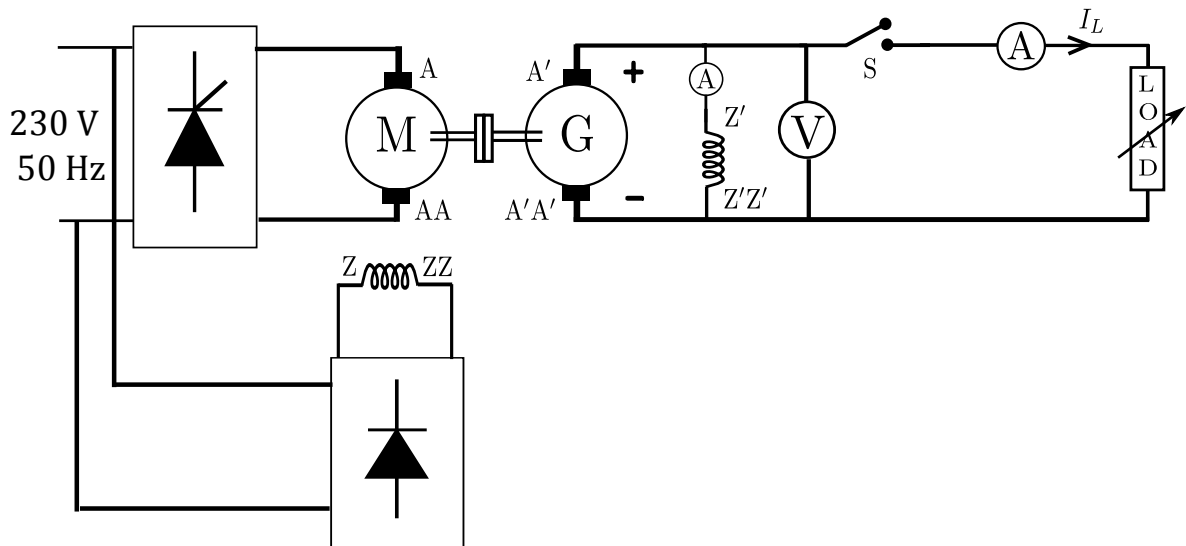

Figure 8: Connection diagram for self excited DC generator
1. Connect the circuit diagram as shown in Fig. 8 (you need to connect the field winding across the armature instead of connecting it to a separate supply).